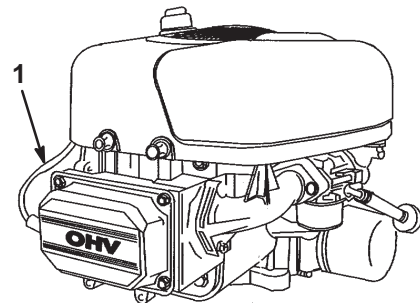

Figure 19
- Disconnect the wire from the spark plug (Fig. 19).
3. Connect the wire to the spark plug (Fig. 19).